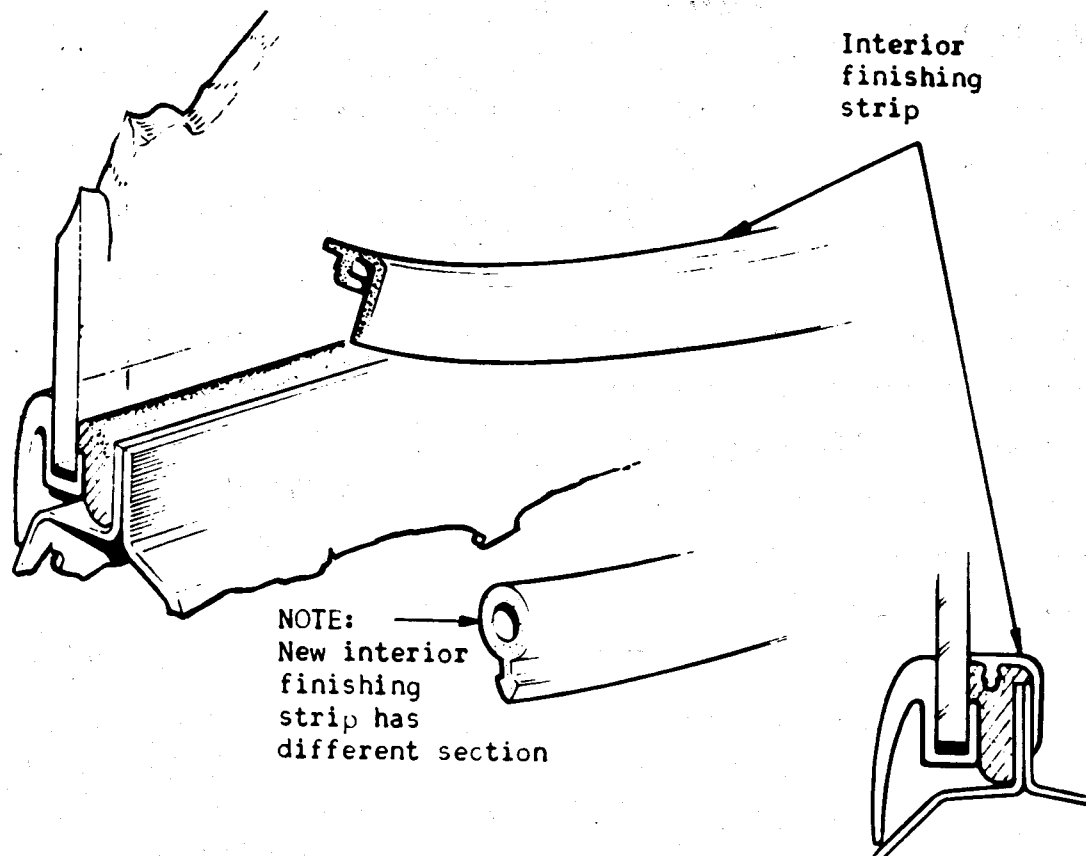

Fig. 22 - Location of interior finishing strip
20. While maintaining pressure from the exterior of the screen, fit the interior finishing strip (see Fig. 22), ensuring that the tang of the strip does NOT separate the butyl from the glass.